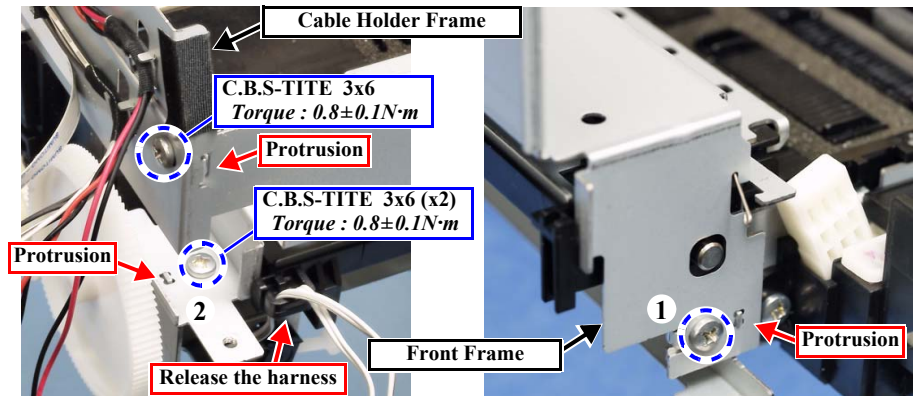

Figure 4-77. Removing the Front Frame
3. Release the cable of the CD-R sensor from the hook of the Eject Frame. (Fig. 4-77)
- After installing the Front Frame, confirm the engagement of the protrusions (x2), and then tighten the screws in the specified order. (Fig. 4-77)
- After installing the Cable Holder Frame, confirm the engagement of the protrusion, and then tighten the screw. (Fig. 4-77)